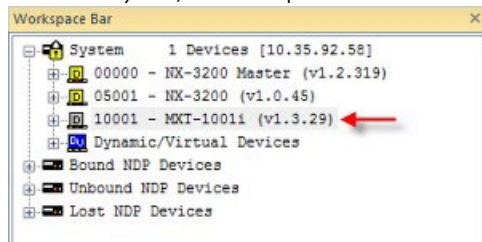

FIG. 157 NetLinx Studio Online Tree (MXI-1001 selected)
2. Under *System*, select a G5 panel for the firmware update (FIG. 157):